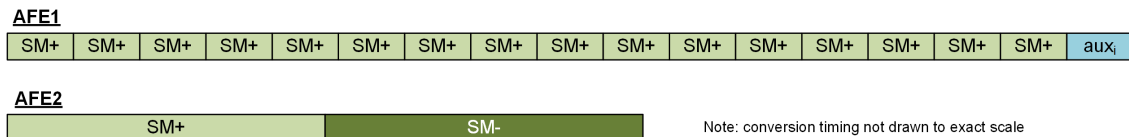

Figure 31: Sequencer Illustration for AFE1 and AFE2
The fast reaction of the bridge sensor input is achieved through AFE1, which runs at low resolution (10 bit) and highest update rate. AFE2 runs on high resolution (SM+/SM- sequencer, 16bit) and a slower update rate according to Table 26. Figure 31 illustrates the sequence of AFE1 and AFE2 measurements.
- The  $aux_i$  cycle in the sequencer becomes automatically activated if T1 or PTAT are selected. If no temperature sensor is selected, the  $aux_i$  cycle shown in Figure 31 is removed.